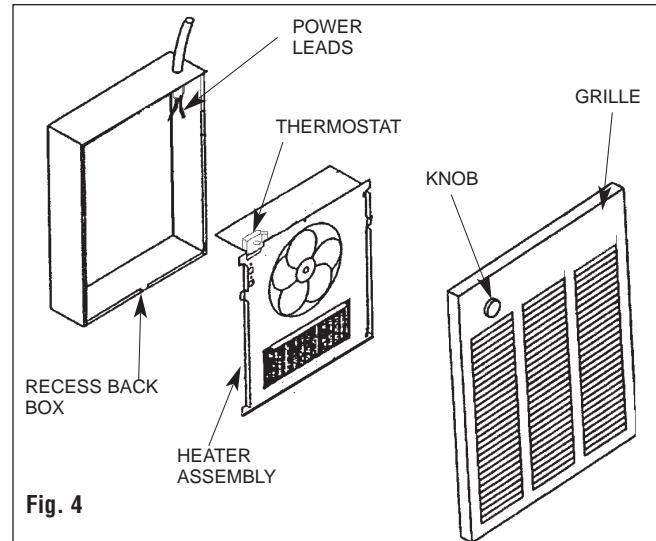

Fig. 4
After back box is completely installed and no further construction dirt is expected, clean debris from back box, remove heater assembly from its carton, then refer to Figure 4 and proceed as follows:
2. Remove the grille (Fig. 4).